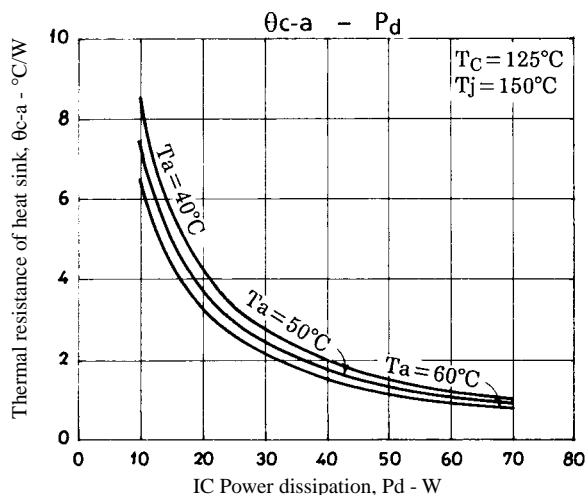

Figure 3. STK4172II θc-a – Pd
Figure 3 shows the relation between Pd and θc-a given from (1) and (3) with Ta as a parameter.
The thermal resistance of a heat sink is obtained from Figure 3.